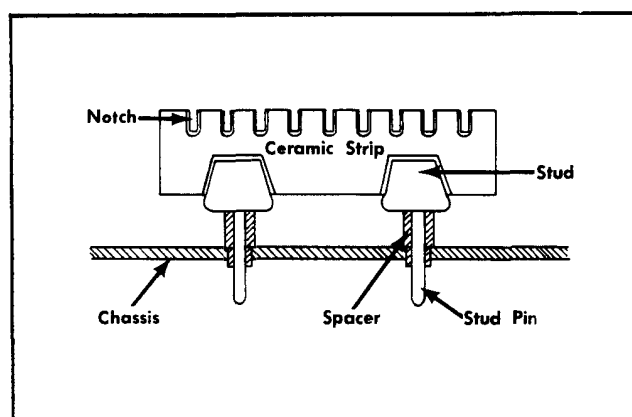

Fig. 4-3. Ceramic terminal strip assembly.
**Ceramic Terminal Strip Replacement.** A complete ceramic terminal strip assembly is shown in Fig. 4-3. Replacement strips (including studs) and spacers are supplied under separate part numbers. However, the old spacers may be re-used if they are not damaged. The applicable Tektronix Part Numbers for the ceramic strips and spacers used in this instrument are given in the Mechanical Parts List.